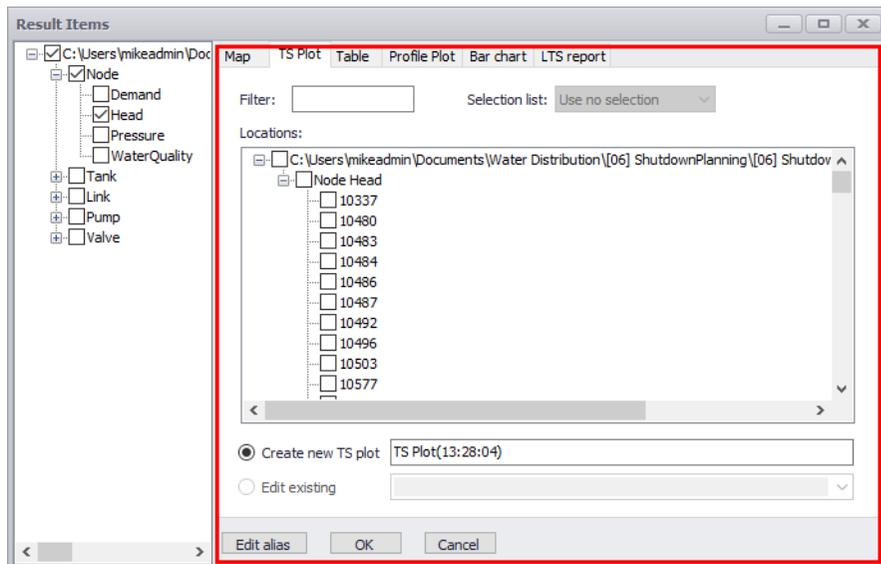

Figure 19.25 The TS Plot tab on the Result Items dialog
- Access the TS Plot tab on the Result Items dialog (Figure 19.25)
- **Time series plot.** This tool launches the Result Items dialog wherein a time series plot may be configured via the TS Plot tab (Figure 19.25).